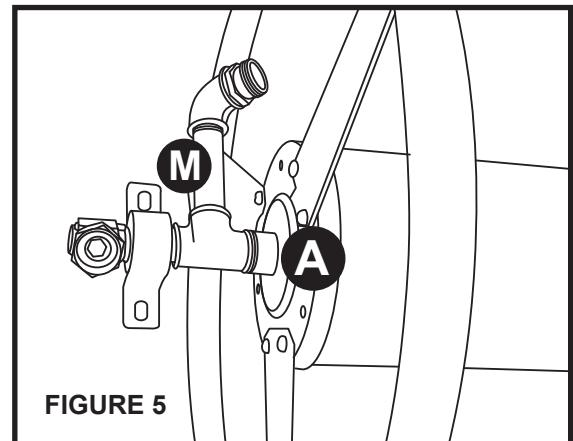

FIGURE 5
5. Screw the galvanized tee (M) onto the spool end (A) Tighten with wrench. **See Figure 5**